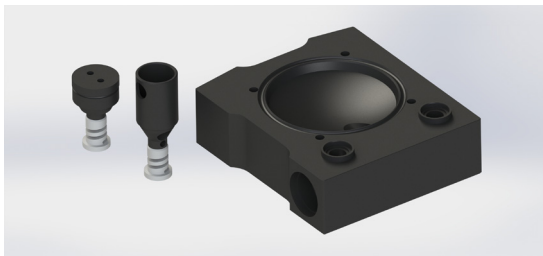

Figure 22
Place valve seat (12) with spring loaded valve (10) it to side section (2 and 3) and pay attention that valve seat flow bore will be in the center with internal channel of side section (see figure 22 and 23)
Preassemble closed nuts and one flat washer at the one end of each assembly pin (see figure 22). Then assembly of the complete housing.